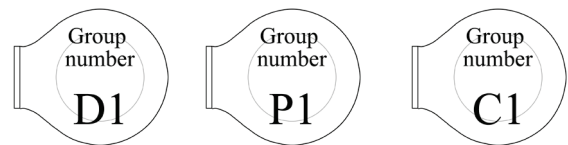

Fig. 9
- Label the lid of the 3 micro-centrifuge tubes “D1”, “P1” and “C1” with your group number (Fig. 9).